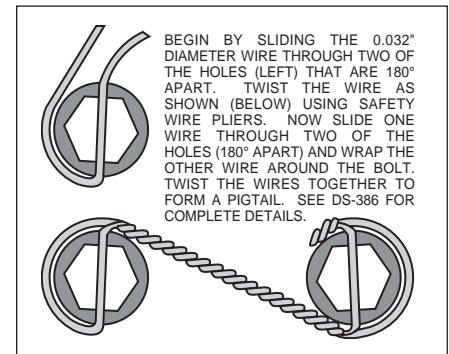

Figure 3. Safety Wire Diagram
- With the larger I.D. side of the rotor (7) facing away from the hat (8), bolt rotor (7) to hat (8) through the backside of the rotor using bolts (9), and washers (10). Using an alternating sequence, apply red *Loctite*® 271 to the threads and torque bolts to 155 in-lb. For an added measure of security, the bolts may be safety wired using standard 0.032 inch diameter stainless steel safety wire as shown in Figure 3. Please refer to Wilwood's data sheet DS-386 (available at www.wilwood.com/Pdf/DataSheets/ds386.pdf) for complete safety wire installation instructions. Slide the rotor/hat assembly onto the spindle. Check to be sure the hat seats squarely against the hub. Install a couple of lug nuts (finger tighten) to keep the rotor/hat assembly in place while continuing with the installation.